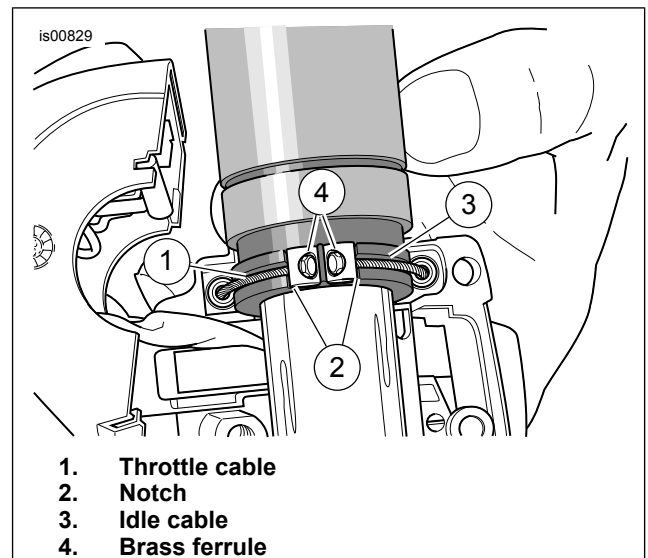

Figure 8. Throttle/Idle Control Cables
- See Figure 8. Remove brass ferrules from notches on inboard side of throttle control grip. Remove ferrules from cable end fittings.
- See Figure 8. Apply graphite lightly to the throttle grip inside the switch housing and on throttle end of handlebar.
6. See Figure 8. Position lower switch housing beneath throttle control grip. Install two brass ferrules (56508-76) from kit onto cables, seating the ferrules in their respective notches on throttle control grip. The cables must be captured in the grooves molded into the grip.